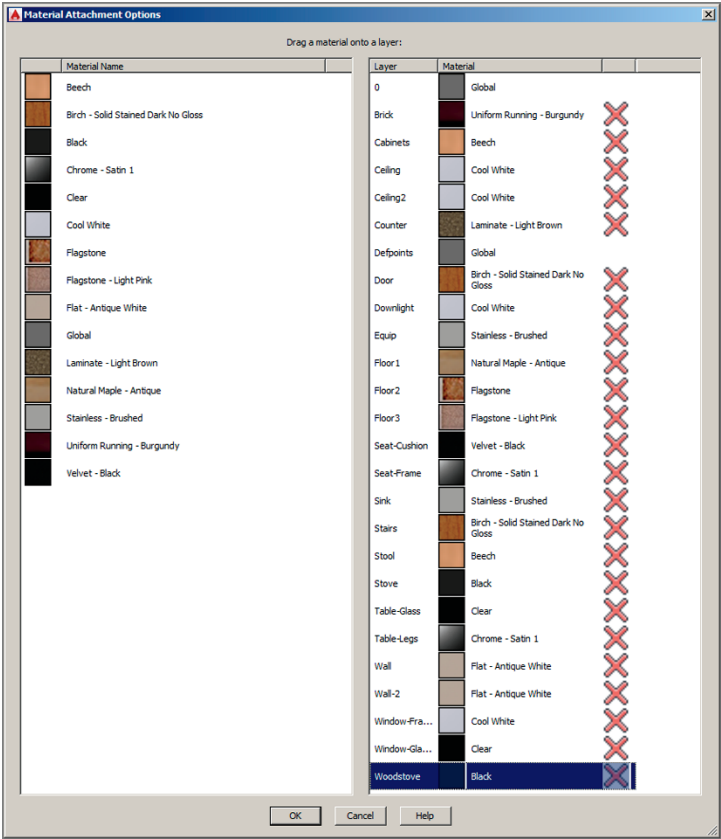

FIGURE 18.4 Assigning materials to layers by dragging from the left pane to the right pane in the Material Attachment Options dialog box
5. Select the ribbon’s Visualize tab. Expand the Materials panel, and select the Attach By Layer tool. Click the Layer header to sort the list of layers in reverse alphabetical order. Click the Layer header again to sort in alphabetical order. Drag materials from the left side, and drop them on the right side according to Table 18.2. Figure 18.4 shows the dialog box with all the necessary materials assigned to specific layers. Click OK to close the Material Attachment Options dialog box.